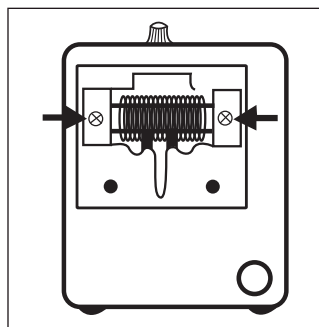

Figure 4
1. Turn off the sensor and power before removing the separating roller. Remove the cutter unit, then remove the two screws. (See Figure 4)